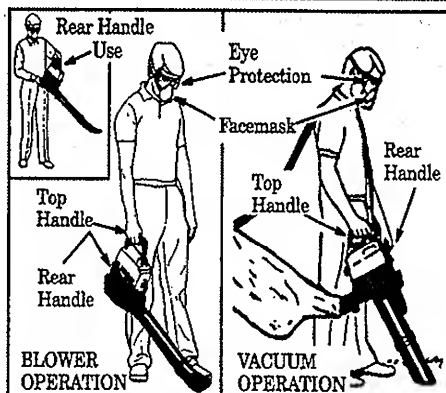

Figure 9
12. Use the correct operating position. Figure 9. Do not overreach or use from unstable surfaces such as ladders, trees, steep slopes, roof tops, etc. Keep firm footing and balance at all times.